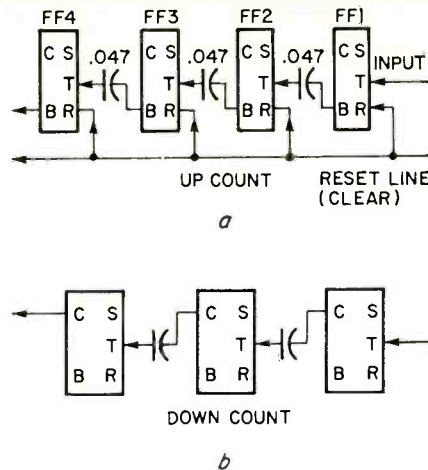

Fig. 9-a—Connecting flip-flop for count up. b—Count-down flip-flop circuit.
When two or more such flip-flop stages are connected so one feeds the other (Fig. 9-a) a counter is formed. Make sure the signal output from the B line is coupled to the T input of the next stage through a coupling capacitor as shown. (Ground connections must be common for each stage.)
A down counter is formed by taking the complement (C) outputs and feeding them to the T inputs of successive stages as shown in Fig. 9-b. If each flip-flop is set to 1, successive inputs to the first flip-flop will reduce the count progressively. (In some diagrams the C and B outputs are designated as 1 and 0.)